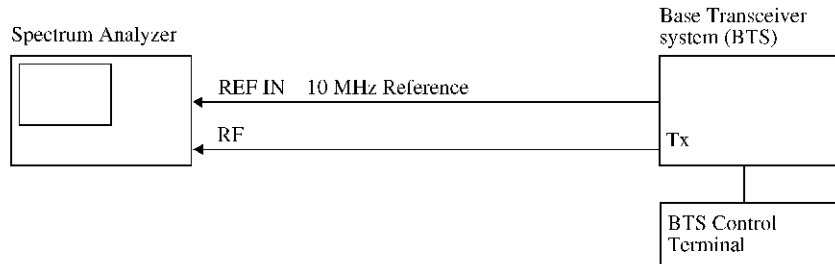

Figure 2-6 Setup for the measurement of the 3GPP signal
1. Connect the unit under test as shown in Figure 2-6.